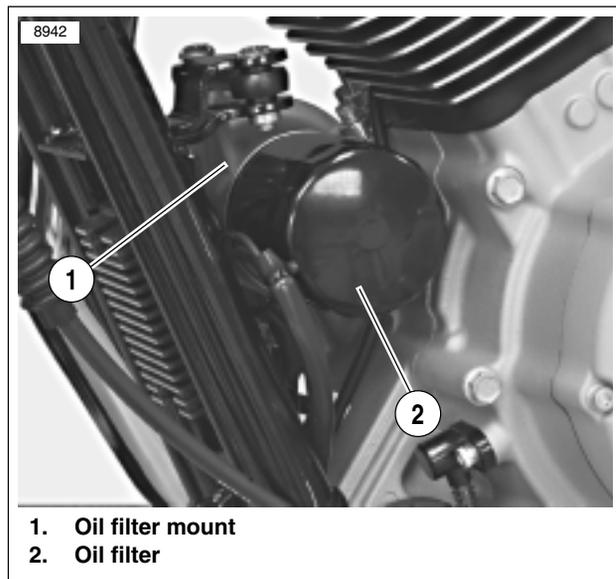
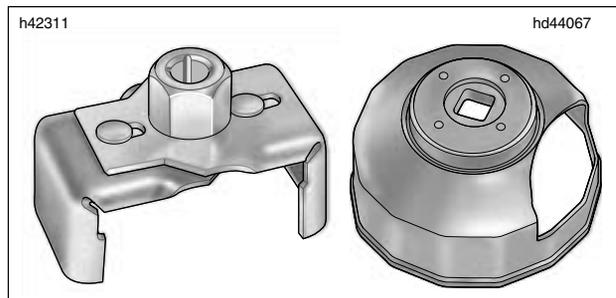

Figure 1-5. Oil Filter
Figure 1-6. Oil Filter Wrench
2. See Figure 1-5. See Figure 1-6. Remove oil filter using OIL FILTER WRENCH (Part No. HD-42311 or HD-44067-A). Turn oil filter counterclockwise to remove from filter mount.